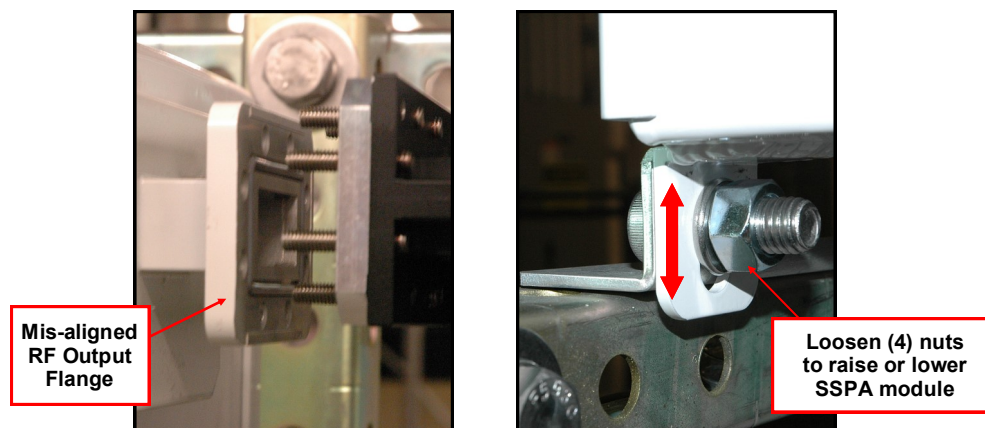

Figure 2-7: Mis-Aligned RF Output Flange (left) and Support Adjustment (right)
Ensure the Compact Outdoor SSPA module is level, and properly aligned with the waveguide assembly. Make any necessary adjustment at the SSPA module support. If the through holes in the RF Output flange of the SSPA module do not align with the threaded posts (as shown in **Figure 2-7, left**), adjust the height at each of the four (4) connections between the Compact Outdoor enclosure and the Module Support (see **Figure 2-7, right**). Make sure the module is level before tightening the hardware.